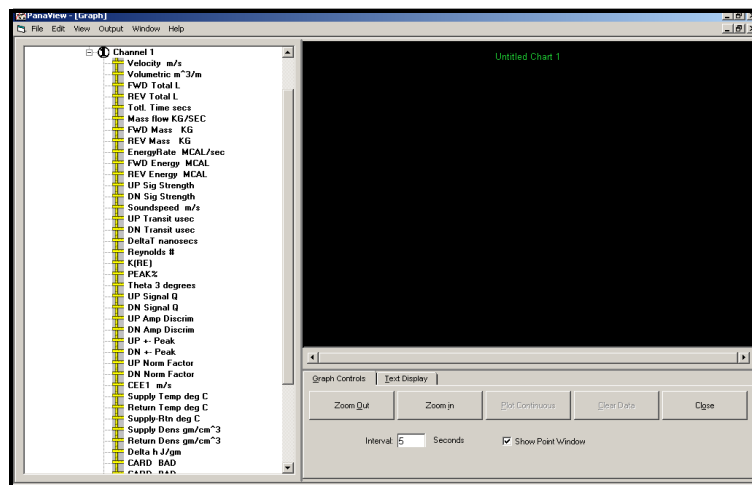

Figure 2-3: Graph Window
3. Using the *Window* menu, arrange the open windows in the desired format. For this discussion, Figure 2-3 below shows the *Graph* window in its maximized (full-screen) size.